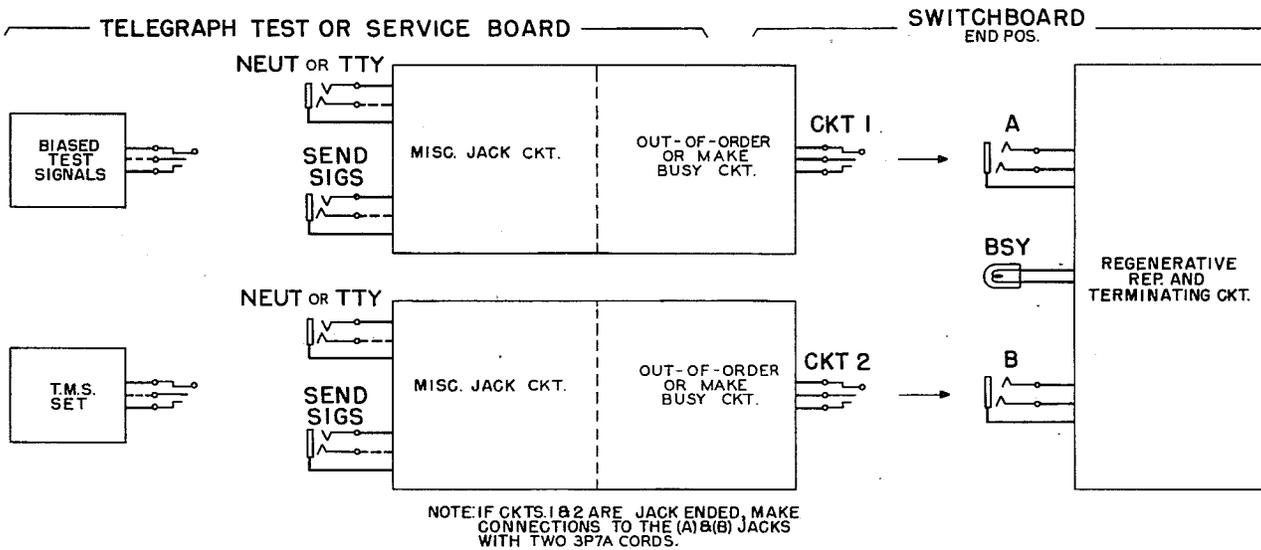

Fig. 2 - Transmission Tests
(B) Transmission Tolerance Tests (Fig. 2)
1.05 Test (A) can be made entirely at the switchboard by one man.